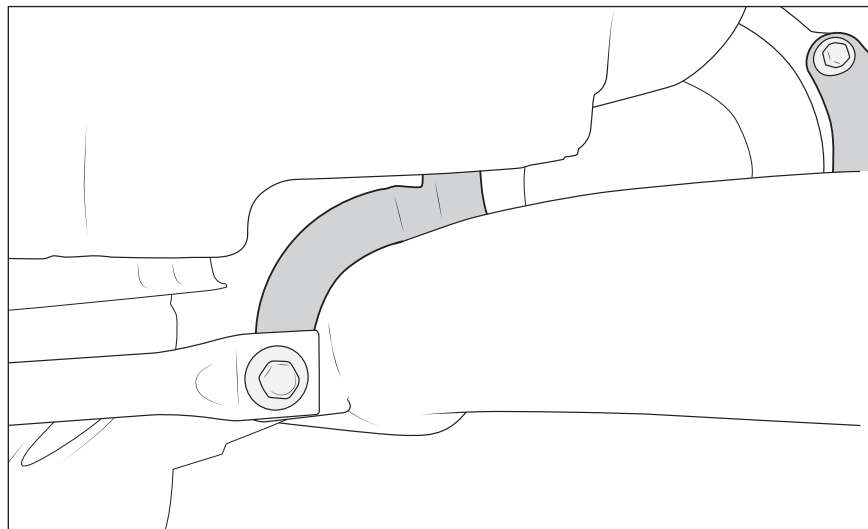

Figure 8
3. Reinstall pencil brace. The light bracket should be between the bumper and the pencil brace (fig. 8).